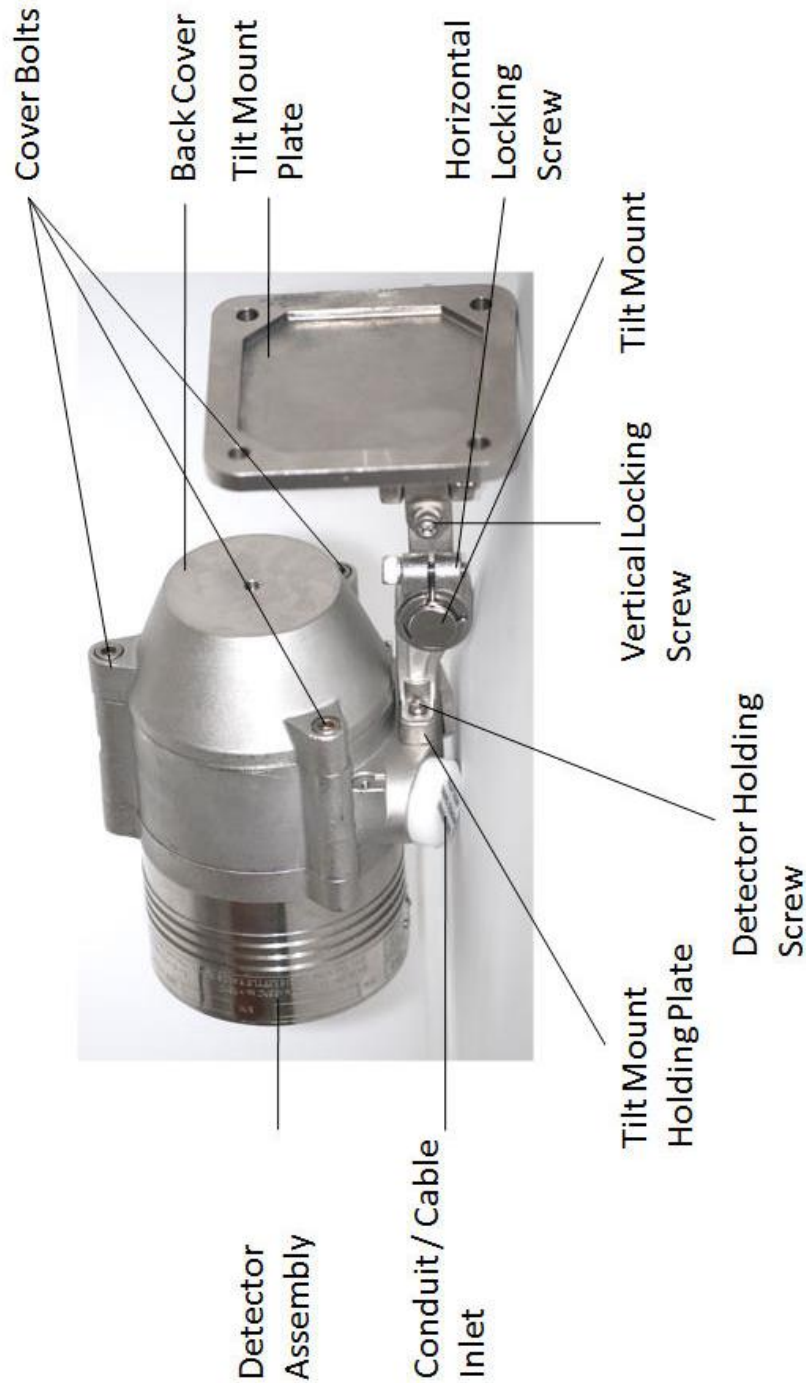

Figure 3: Detector with Tilt Mount
Figure 3 shows the detector mounted on the tilt mount.
- 9** Place and secure the detector's back cover by screwing the 3 socket-head-screws in the cover bolts (Figure 3).